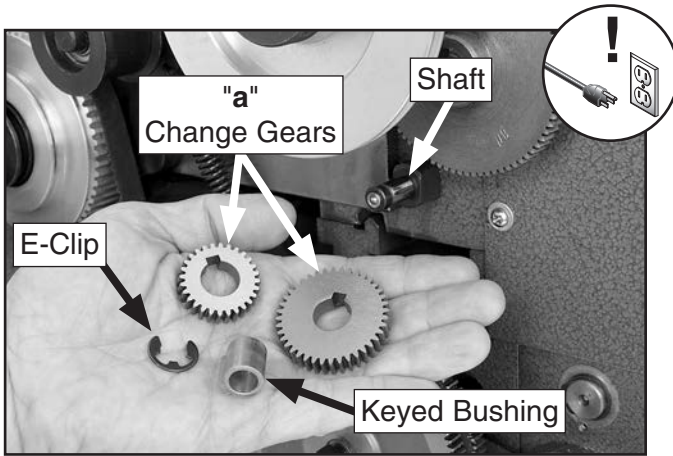

Figure 50. "a" change gears and shaft components.
4. Remove the E-clip that secures the "a" gears, then remove the gears from the shaft (see **Figure 50**).